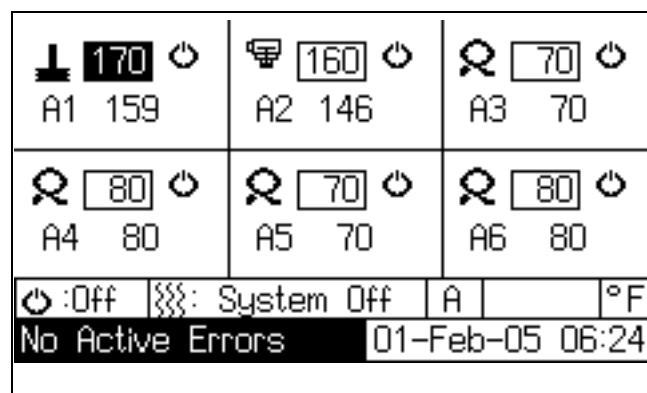
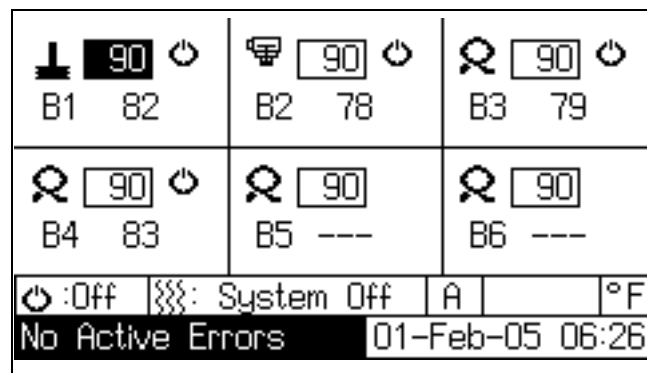

FIG. 9: Zone A Run Screen
FIG. 10: Zone B Run Screen
The Zone Run screen displays a summary of all 6 zones in the system. See FIG. 9.
Tandem systems contain two 6 Zone Run screens (A and B). See FIG. 9 and FIG. 10. Expansion systems contain one 6 Zone Run screen (A) and one 4 Zone Run screen (B). See FIG. 9 and FIG. 10.